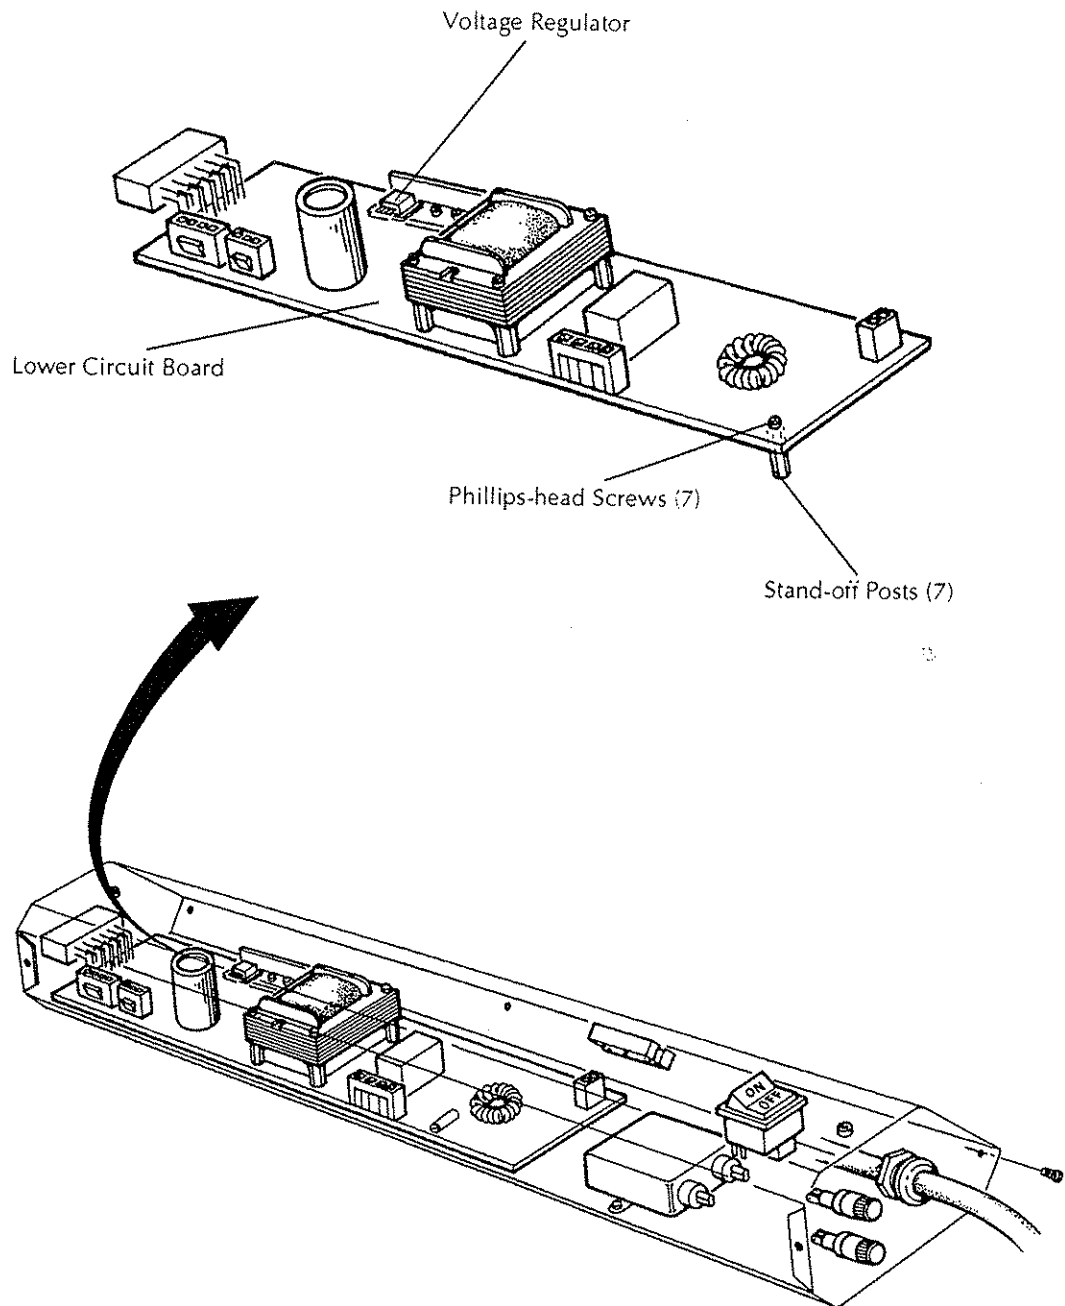

Figure 5-9: Replacing the Lower Circuit Board
2. Label and disconnect all cable connectors attached to the lower circuit board. See Figure 5-9.
3. Remove the seven Phillips-head screws securing the lower circuit board to stand-off posts mounted on the relay box. See Figure 5-9.
Note: Before installing a new lower circuit board, ensure that any old heat sink conductive paste is thoroughly removed from the voltage regulator (See Figure 5-9) and that a fresh, light, even coat is applied.